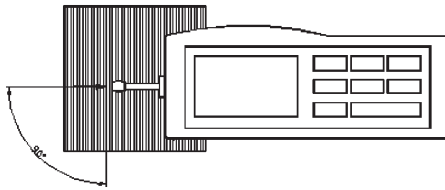

Figure 2-3 Measuring Direction
- Refer to Figure 2-3: the sliding trail of the sensor must be vertical to the direction of process line of the measured surface.